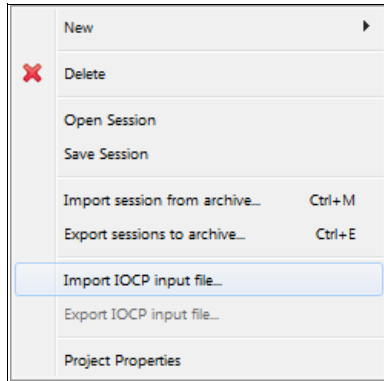

Figure 4-12 Importing the IOCP file
1. Right-click anywhere in the Projects window and select **Import IOCP input file** (see Figure 4-12).